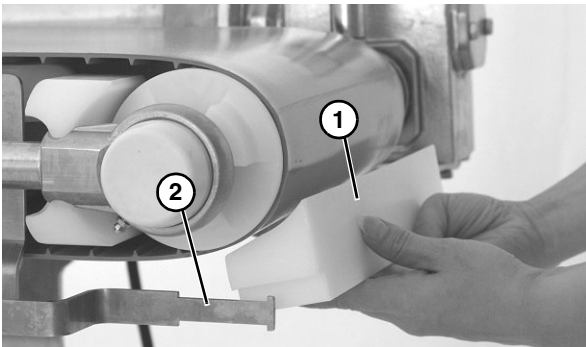
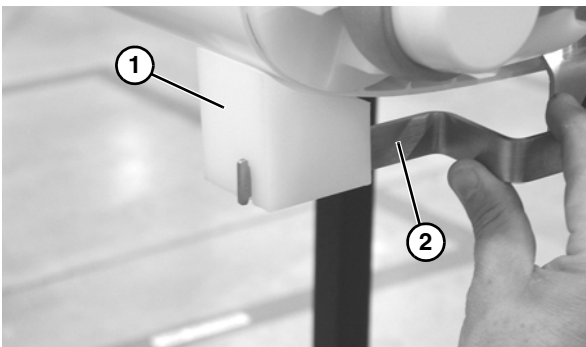

Figure 28 (Flat Belt)
Figure 29 (Cleated Belt)
2. Insert limiter (**Figure 28, item 1**) or (**Figure 29, item 1**) between support plates (**Figure 28, item 2**) or (**Figure 29, item 2**).